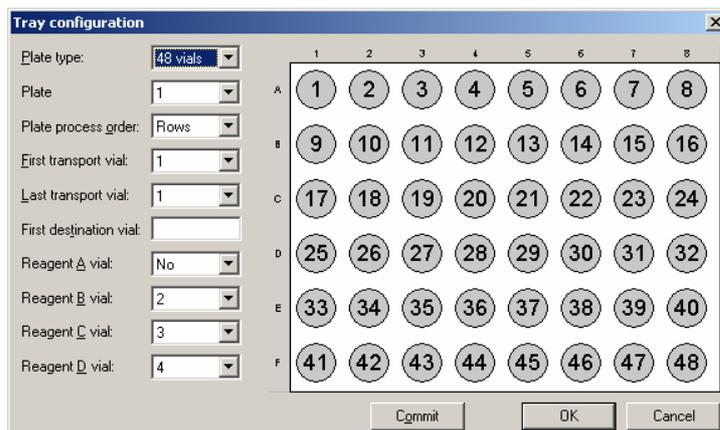

FIGURE 2-23 The Tray Configuration Window
- c) Choose the **Tray...** button to open the tray configuration window (FIGURE 2-23).